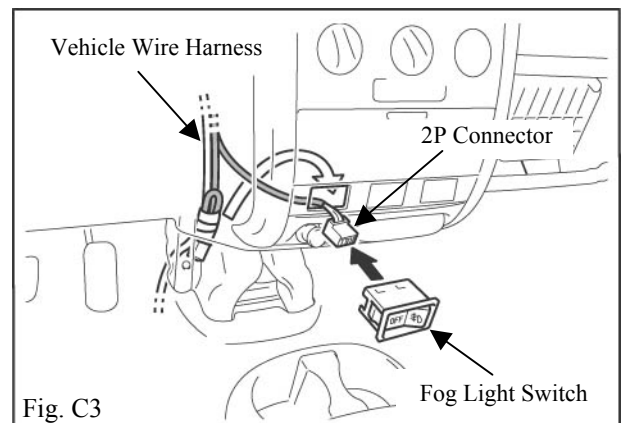

Fig. C3
4. Access the 2P connector through glove box opening. (Fig. C3)
- ➡ 5. Remove the 2P connector secured with vehicle wire harness as shown. (Fig. C3)
- ➡ 7. Correctly orientate switch in hole. (Fig. C3)